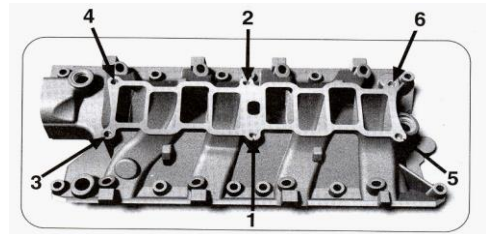

Figure 2
7. Install the upper to lower manifold studs in the lower manifold, then set the gasket into place. Set the Trick Flow upper intake on and put the two center bolts in position. Place the nuts on the studs and torque both the nuts and the bolts in the following steps: 12 ft.-lbs., 16 ft.-lbs., 20 ft.-lbs. Be sure to tighten the fasteners in the correct sequence as shown in Figure 2.